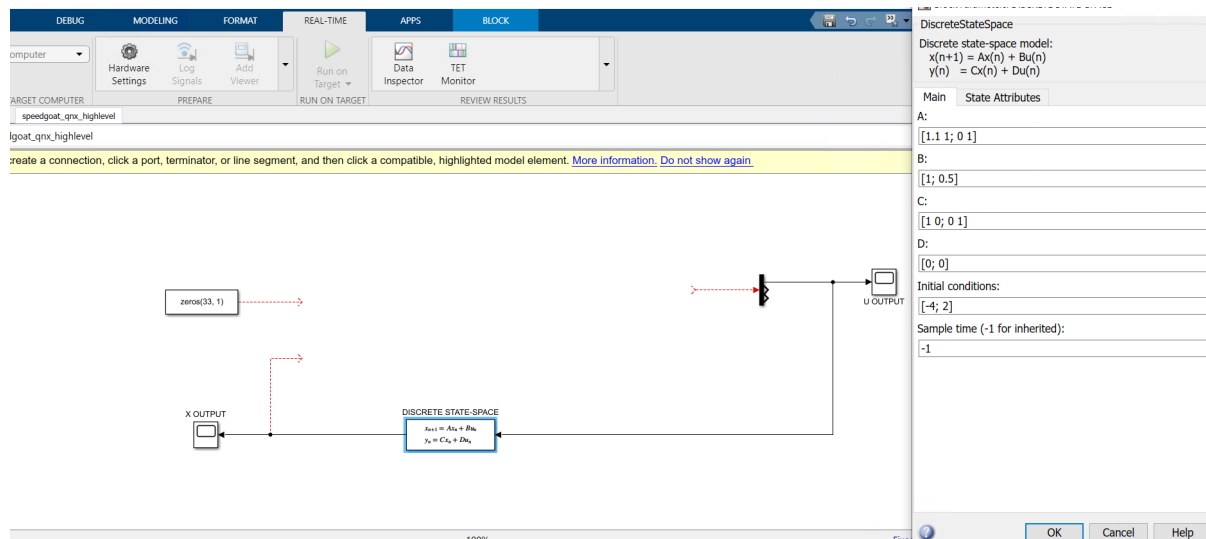

Figure 13.89: Populate the Simulink model.
3. (Figure 13.89) Populate the Simulink model with the system you want to control.